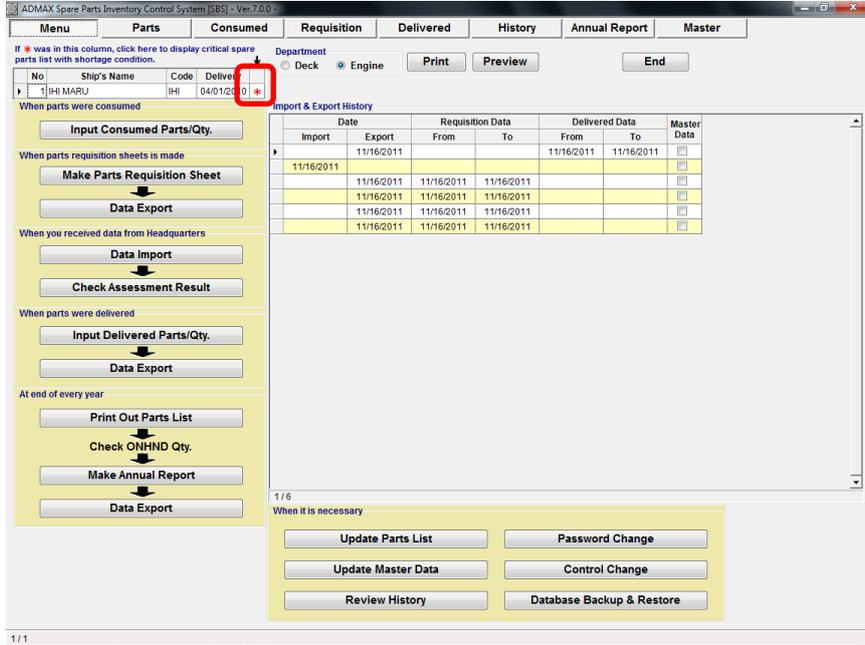

Fig 4.1 Menu
1. On the “Menu Screen” (Fig.4-1), select [\*] mark on Ship list.